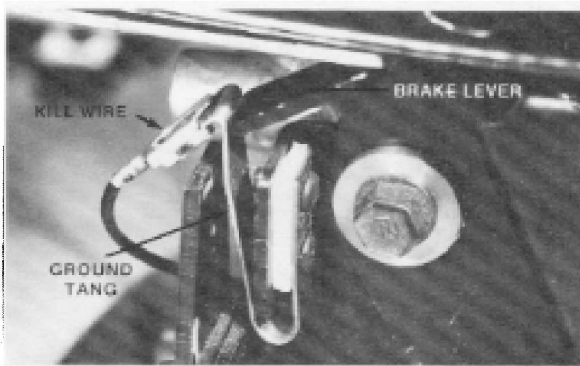

Figure 3-15
1. Make sure the engine kill wire is connected to the ground tang. See Fig. 3-15.